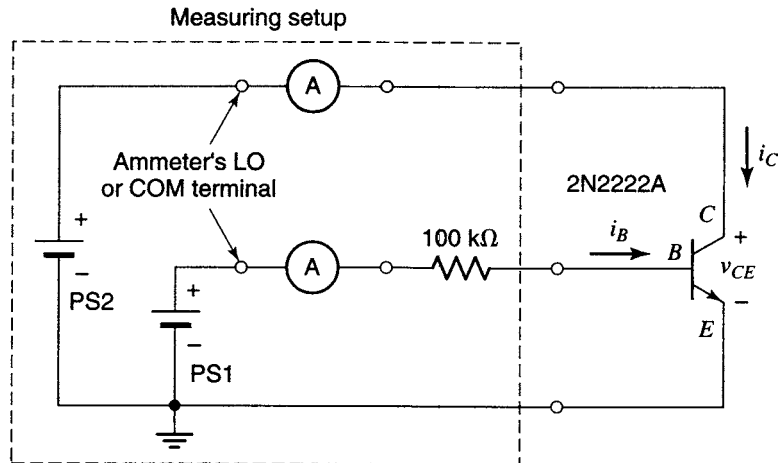

Figure 3. Setup for measuring transistor I-v characteristics
1. You will measure the transistor characteristics, using the setup in Fig. 3. The part labeled "Measuring setup" is a piece of instrumentation designed for making transistor measurements. The voltage of PS#1 is used for varying the base current, i_B . The resistor is used for limiting this current (connecting PS#1 directly across the base-emitter would be risky since the base current depends exponentially on the base-emitter voltage; thus a slight increase in the latter could cause a huge change in the base current). The circles labeled A are ammeters, used to monitor the base and collector currents. Hook up the circuit, using connections as short as possible. To avoid some problems associated with nonidealities of digital ammeters, connect them as shown in the figure. Note that when hooked up in this way, the ammeter will not show the base and collector currents but, rather, their opposite. Thus, you should change the sign of these readings to obtain the two currents.